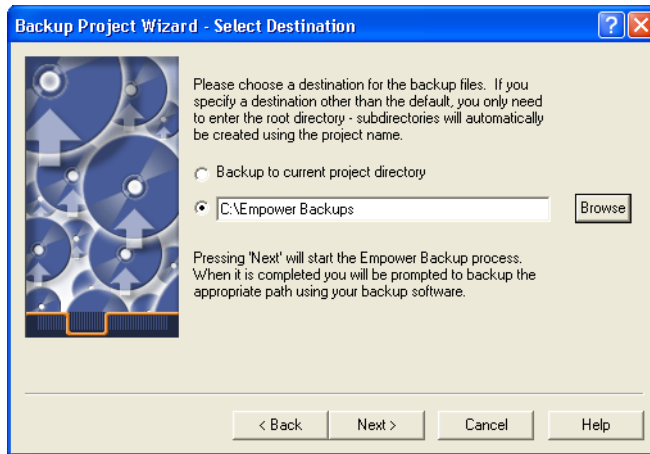

Figure 8-2 Backup Project Wizard–Select Destination Page
2. You must enter comments in the Backup Comments text box (up to 249 alphanumeric characters). Click **Next**. The Select Destination page appears (Figure 8-2).